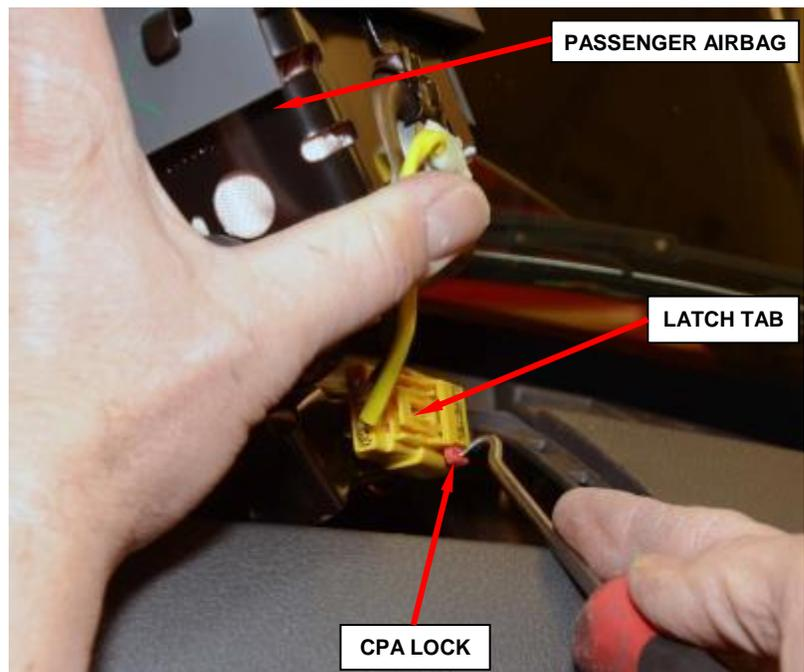

Figure 52 – Airbag Inflator Pigtail Connector
- a. Slide the red Connector Position Assurance (CPA) lock on the connector toward the side of the connector (Figure 52).
9. Connect the instrument panel wire harness connector for the airbag to the passenger airbag inflator pigtail wire connector on the right side of the airbag mounting bracket. Be certain that the latch on the connector and the red Connector Position Assurance (CPA) lock are each fully engaged (Figure 52).